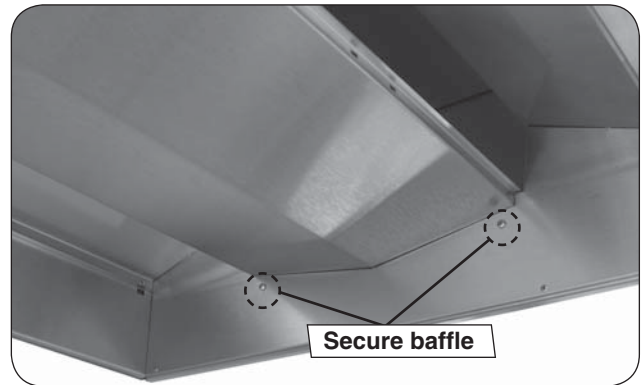

Fig. 14-2
2. Align the 4 screw holes (2 on each side), then secure the baffle in place with the provided screws. See Fig. 14-2.